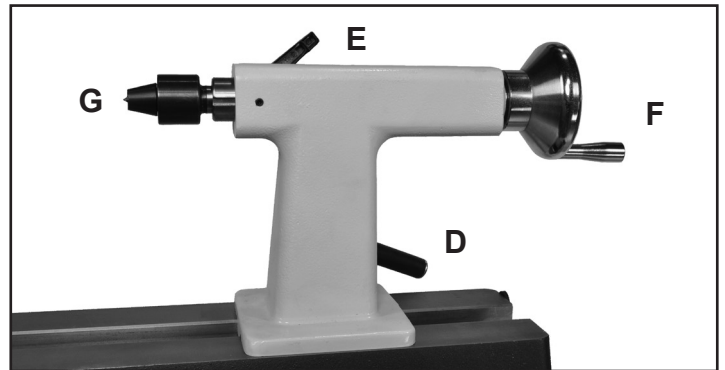

FIG. 5
1. **TAILSTOCK LOCK HANDLE:** (FIG. 5, D) Locks the tailstock in position along the length of the lathe bed. Unlock the cam lever handle to position the tool rest to move the tailstock. Tighten handle when properly positioned. See page 12 for adjusting clamping pressure.
2. **TAILSTOCK QUILL LOCK HANDLE:** (E) Secures the tailstock quill in position. Unlock the handle to move the quill, with live center, forward or backwards. Tighten the locking handle when the quill is finally positioned.
3. **TAILSTOCK QUILL HANDWHEEL:** (F) The handwheel advances or retracts the quill 0 to 3-1/2". The tailstock quill lock handle (E) must be loose to move the quill.
4. **TAILSTOCK LIVE CENTER:** (G) Used for turning between centers. The Live Center (#20C) and the Quill (#6C) have MT-2 tapers. Remove the live center by retracting the quill until the center loosens, or use the knockout bar.